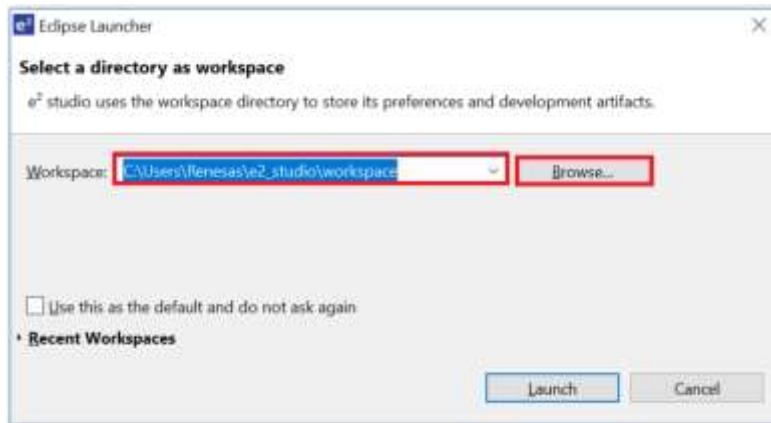

Figure 16. e2studio Workspace Selection
2. Launch e2studio and select a workspace path (see Figure 16).